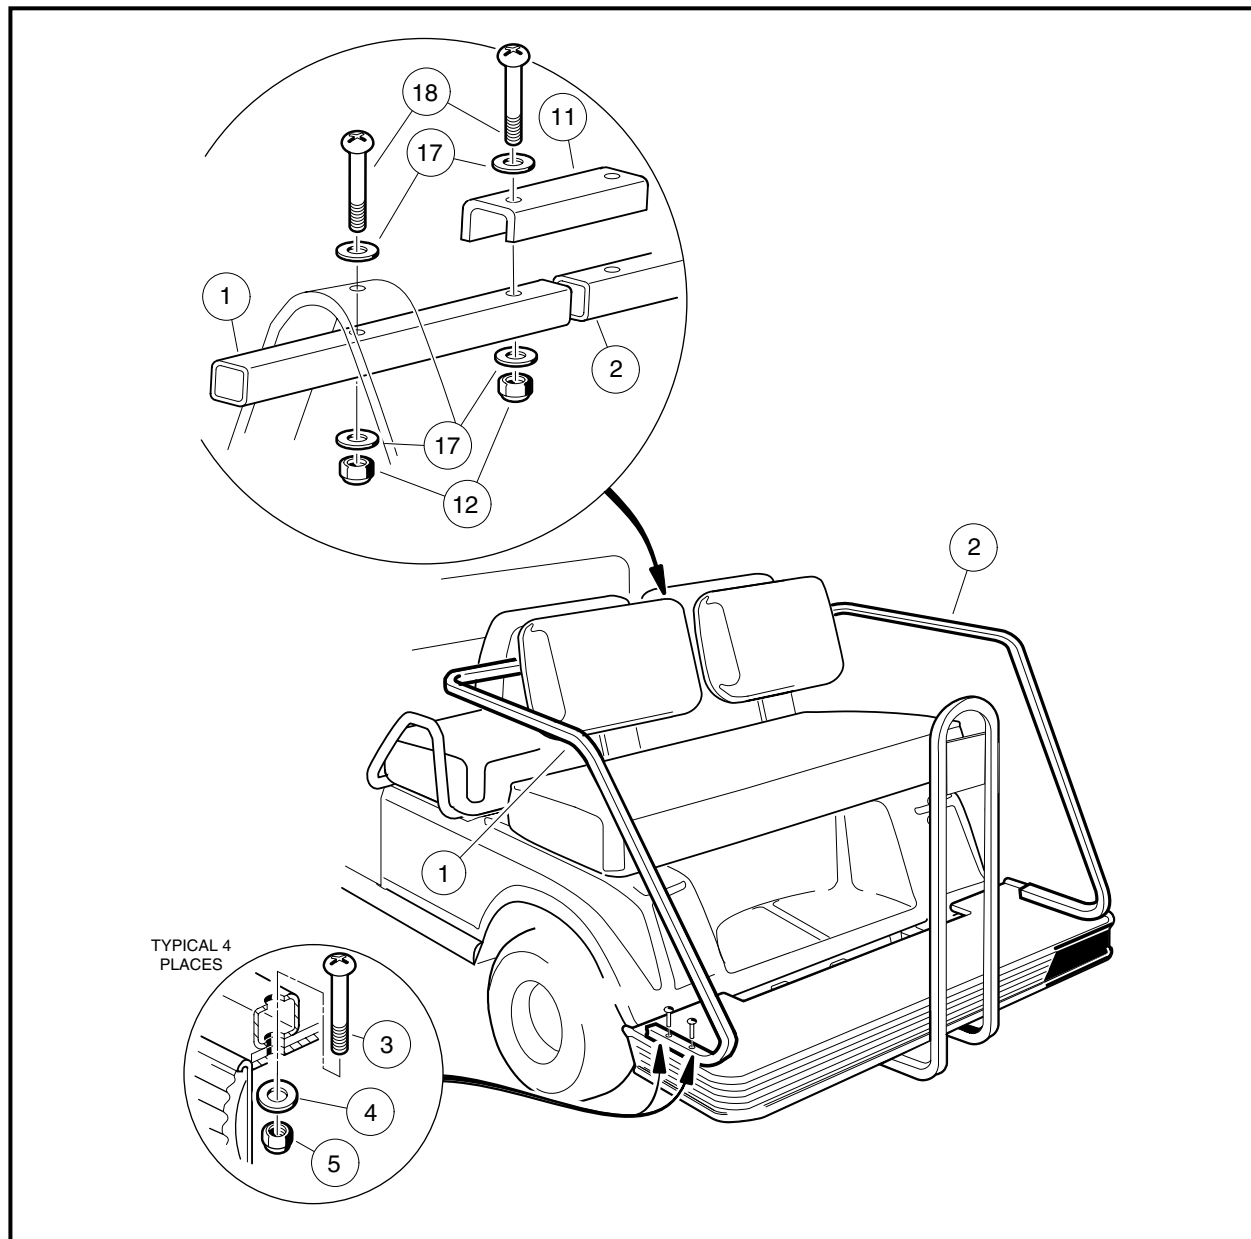

Figure 4-10 Rear Seat/Armrest – Villager 4
15.1. Remove the four screws (3), washers (4) and lock nuts (5) that secure the rear armrests to the rear footrest assembly (**Figure 4-10, Page 4-10**).
- 1.6. Install rear armrest and tighten screws (3 and 18) and lock nuts (5 and 12) to 65 in-lb (7.35 N·m) (**Figure 4-10, Page 4-10**).